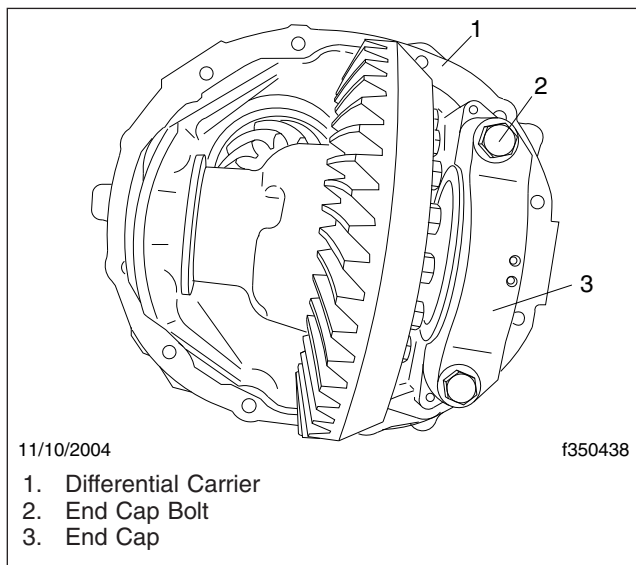

Fig. 2, Carrier End Caps
7. Install the end caps at the sides of the forward differential carrier into the corresponding slots in the axle housing. See Fig. 2.